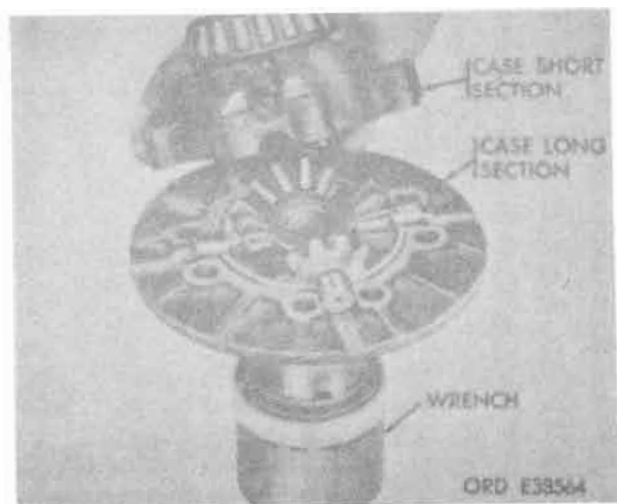

Figure 12-41. Assembling differential case sections.
f. Assemble case sections. Index mating marks must be matched. Refer to paragraph 12-9 and figure 12-41.